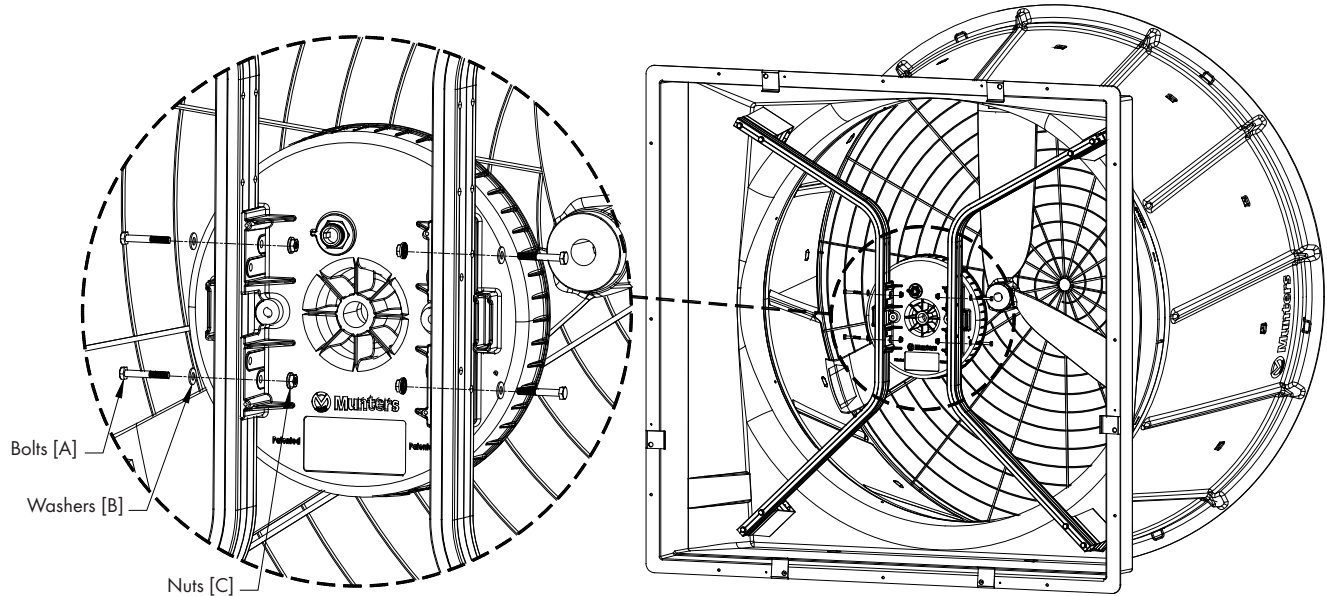

Figure 13
Carefully lift motor into place with the mounting flanges between the struts and secure in place using (4) Bolts [A], Washers [B] and Nuts [C] in the outer holes closest to the motor. See Figure 13.